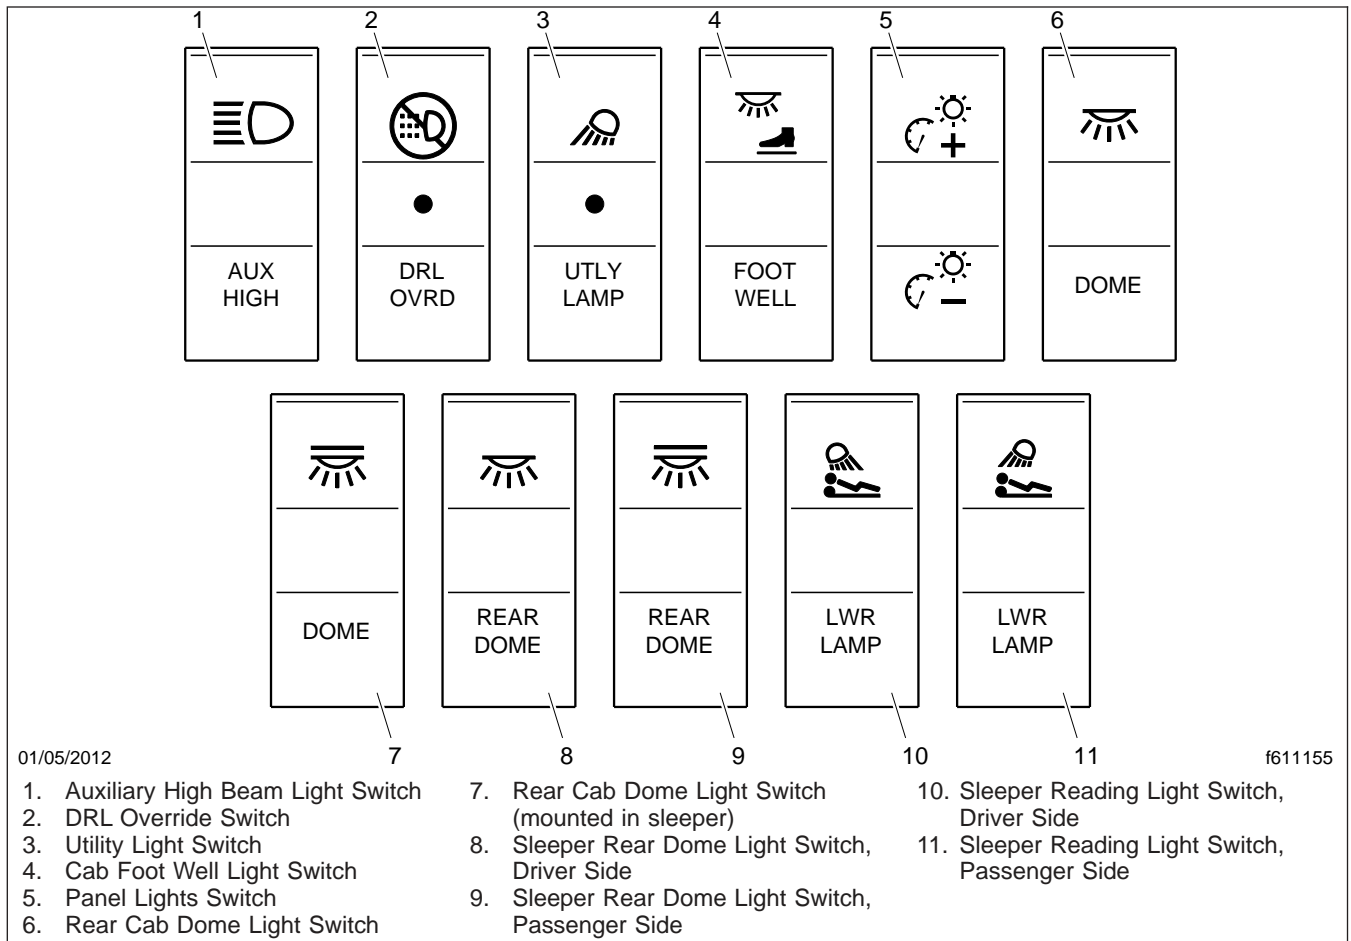

Fig. 5.4, Dash-Mounted and Sleeper-Control Light Switches
Auxiliary high-beam lights may be located in the front bumper. To activate the auxiliary high beam lights, press the upper part of the dash switch. The auxiliary high beam lights will illuminate only when the high-beam headlights are on. They will switch off temporarily when the low-beam headlights are on, until the high beams are on again. Press the lower half of the switch to deactivate it. See Fig. 5.4.
Daytime running lights are mandatory for vehicles domiciled in Canada. Vehicles domiciled in any other location may have an optional override switch (Fig. 5.4, ref. 2). This is a momentary switch that enables the driver to deactivate the DRL. Press the upper half of the switch briefly to activate or deactivate the DRL.
half of the switch to turn it off. When activated, a red indicator light in the switch is illuminated. See Fig. 5.4.
When the driver or passenger doors are opened, red lights illuminate both foot wells. These lights can also be activated with the foot well light switch. See Fig. 5.4. Press the upper half of the switch to turn the foot well lights on, press the lower half of the switch to turn them off.
The panel lights illuminate when the headlights are turned on. To adjust the brightness of the panel lights, use the panel lights switch, usually located in the master module next to the hazard flasher switch. See Fig. 5.4. The panel lights brighten and dim in 5% increments, depending on whether the upper half or the lower half of the switch is pressed. When the
Use the dash-mounted switch or the switch in the sleeper panel to activate the rear cab dome light. See Fig. 5.4.
The sleeper foot well switch is located in the lower switch module in the sleeper. It looks identical to the cab foot well switch. See Fig. 5.4. When the switch is activated, two lights illuminate the sleeper floor.
Clear reading lights are mounted above the lower bunk in the rear corners of the sleeper. There are two switches in the sleeper control panel for the reading lights. To turn a reading light on, press the upper half of the switch. Press the lower half of the switch to turn it off. See Fig. 5.4.